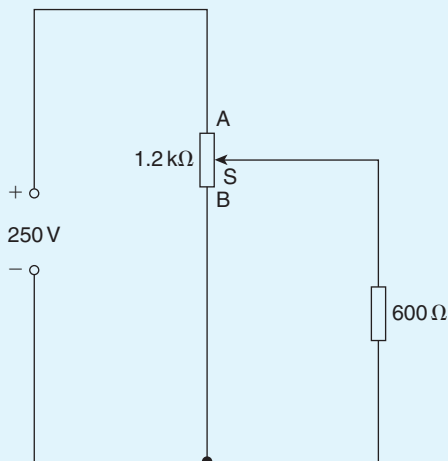

Figure 5.46
3. For the circuit shown in Fig. 5.46, calculate the voltage across the $600\ \Omega$ load when point S splits AB in the ratio 1:3